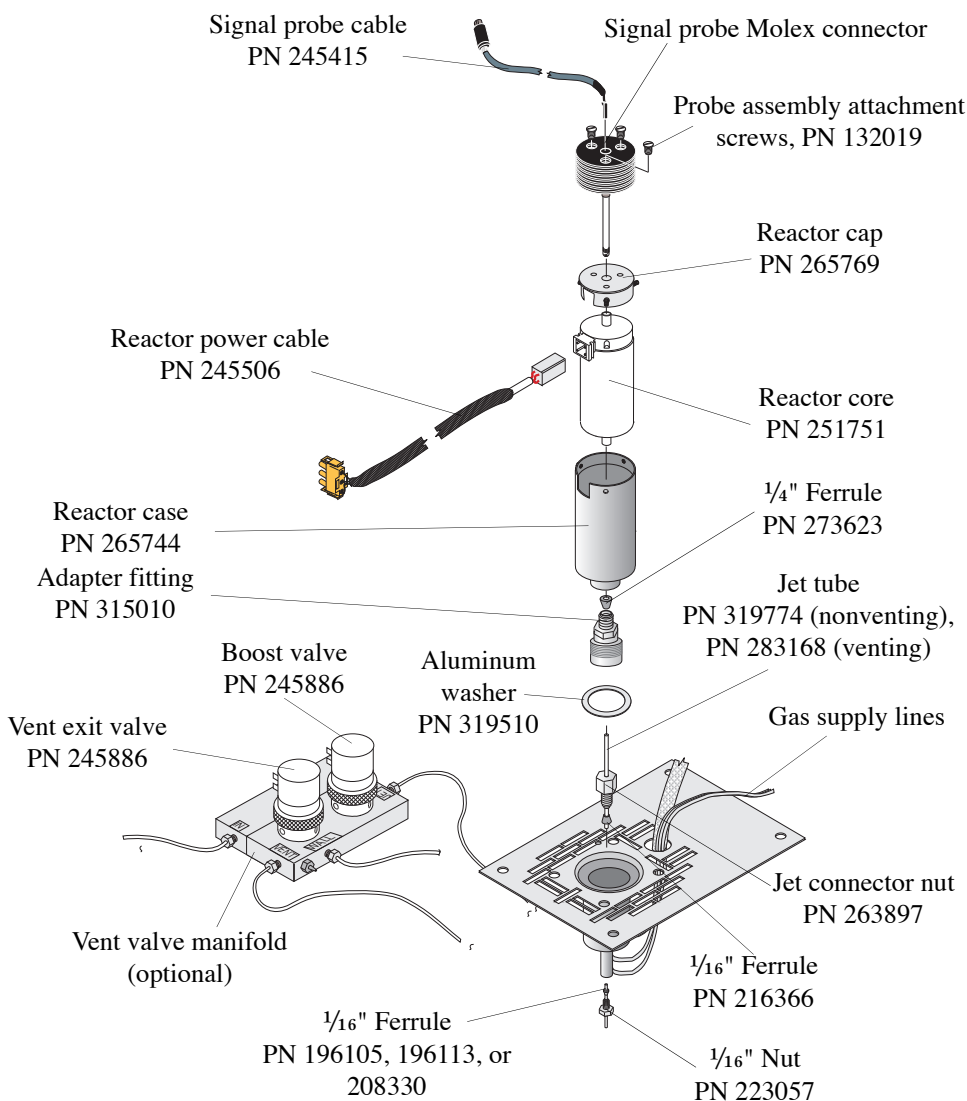

Figure 5.1. Model 5360A Detector Assembly with venting option
5. Disconnect the four-pin connector of the reactor power cable from the reactor core (refer to Figure 5.1).
7. Using needle-nosed pliers, place the new 1/16" jet tube (PN 319774 or PN 283168 (venting option)) into the reactor base. Slide a 1/16" graphite-Vespel[®] ferrule (PN 216366) over the jet tube with the flat side down (refer to Figure 5.1). Slide the jet connector nut (PN 263897) over the jet tube. Gently tighten the jet connector nut using the 5/16" socket wrench. Do not overtighten.